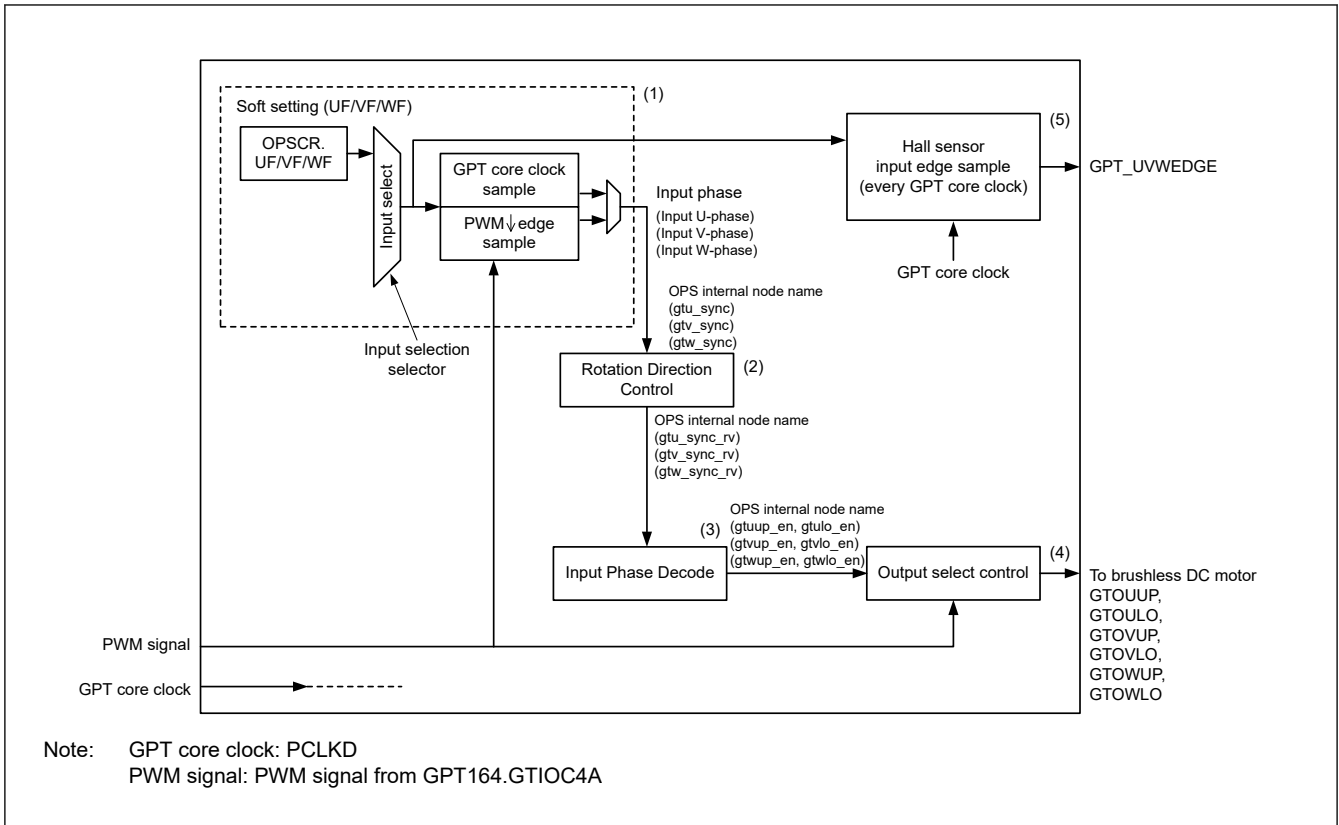

Figure 20.55 Conceptual diagram of GPT_OPS control flow
Figure 20.55 shows the conceptual diagram of GPT_OPS control flow.
In the GPT_ OPS control flow conceptual diagram shown in Figure 20.55, (1) is a selection of input phase from the software settings and external input by the OPSCR.FB bit.
In the GPT_OPS control flow conceptual diagram shown in Figure 20.55, (3) enables the 6-phase signals by decoding the input phase selected in the OPSCR.FB bit.
In the GPT_OPS control flow conceptual diagram shown in Figure 20.55, (2) controls the direction of rotation of a 3-phase motor using the OPSCR.RV bit.
In the GPT_OPS control flow conceptual diagram in Figure 20.55, (4) represents the selection of the output waveform by setting the OPSCR register bit.
In the GPT_OPS control flow conceptual diagram shown in Figure 20.55, (5) outputs the Hall sensor input signal edge to the ELC.